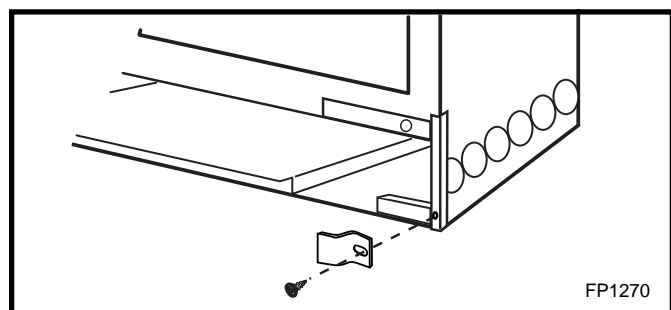

Fig. 54 Bracket for HEHTKP.
3. Install bracket on each side of the cabinet as shown in Figure 54.